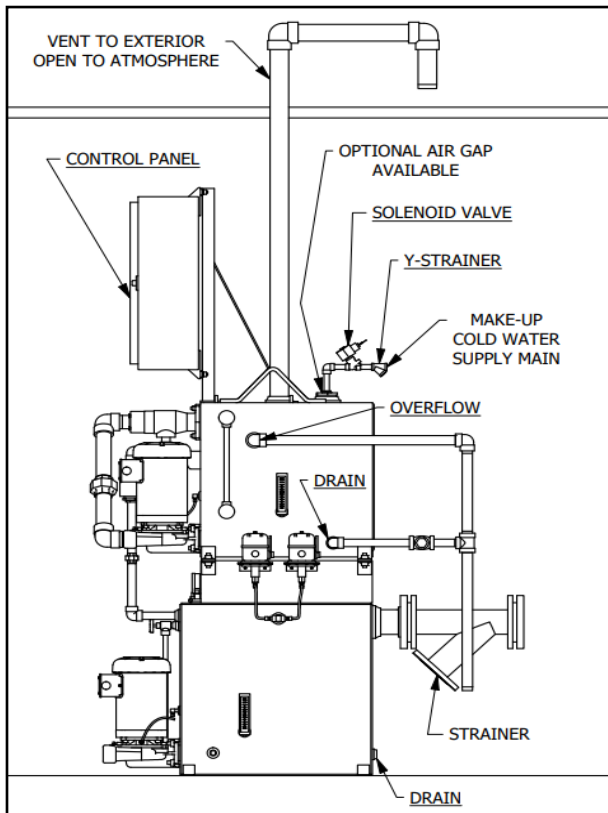

Figure 3
b. The hurling tank also requires a vent. It should rise to a point near the ceiling, but **NO LESS** than twelve (12) inches above the boiler water line. This vent must terminate over a floor drain or into a waste system, as depicted in Figure 3.